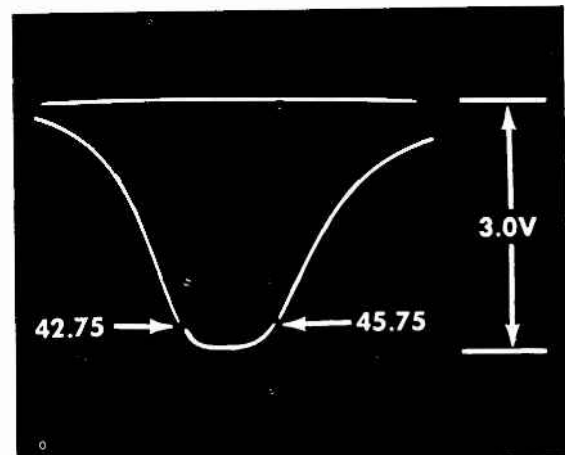

Fig. 10 4th IF Response 16K20, 16K26 Chassis
4. Set the marker generator to 45.75 Mc and alternately adjust the top and bottom cores of the 4th IF for maximum gain and symmetry with the 45.75 Mc and the 42.75 Mc markers positioned as shown in Fig. 10. If the correct response cannot be obtained, check the position of the cores to see that they are not butted but are entering their respective windings from the opposite ends of the coils.